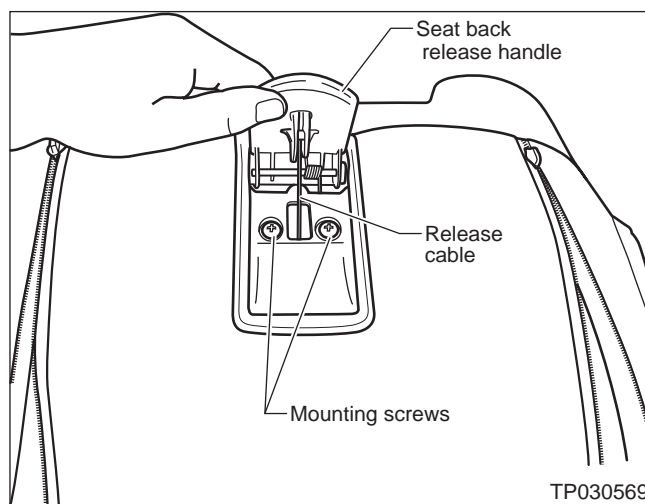

Figure 16
18. Install the seat back release handle (see Figure 16).